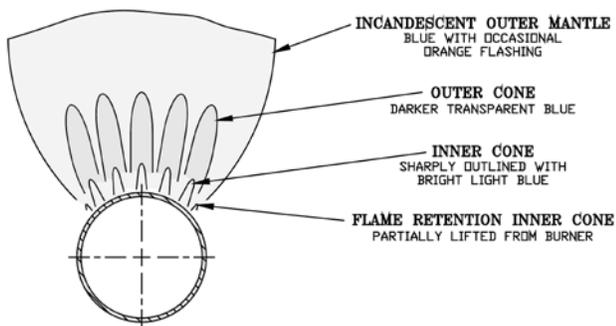

Figure 23: 40mm Main Burner Flame
5. MAIN BURNER FLAMES should have a clearly defined inner cone (see Figure 23 or 24) with no yellow tipping. Orange-yellow streaks caused by dust should not be confused with true yellow tipping.